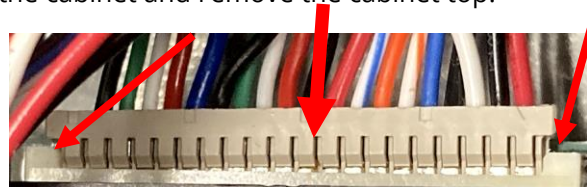

Figure 6
2. Remove the four (4) Phillips screws on the top of the cabinet and remove the cabinet top.
3. **Ensure the connector, that attaches directly to the rear of the touch screen, is fully inserted into the connector by pressing in on both sides of the connector (see Figure 6). The photo shown shows the right side slightly out of the connector. It may require disconnecting and reconnecting the connector. Both sides of the connector should be flush against the connector on the board.**